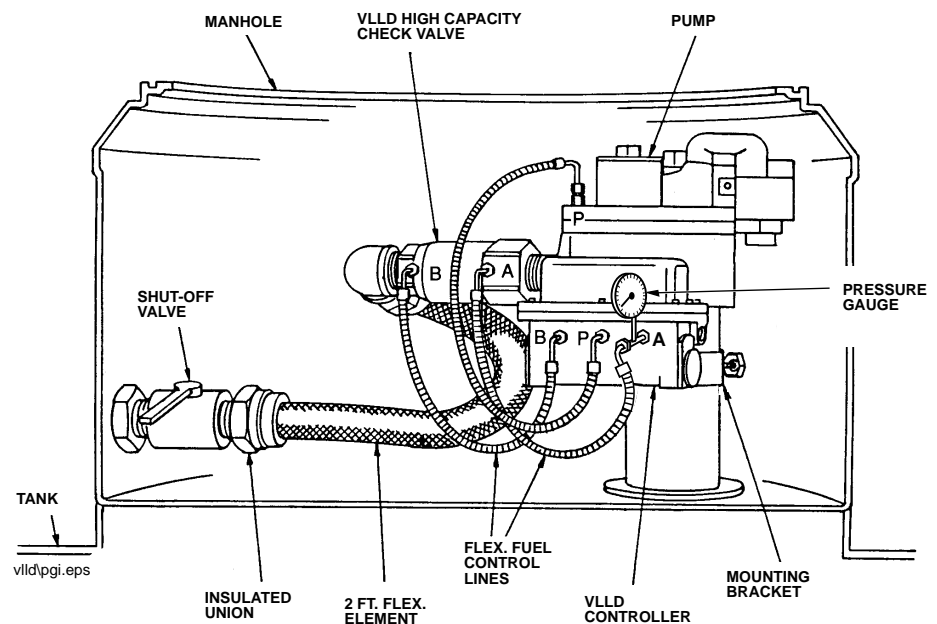

Figure 9. Pressure Gauge Installation, Pumpside Self-Test Check
3. Disconnect the flexible fuel line from the “A” port on the controller or the check valve. Install a pressure gauge between the flexible fuel control line and the “A” Port [Figure 9].